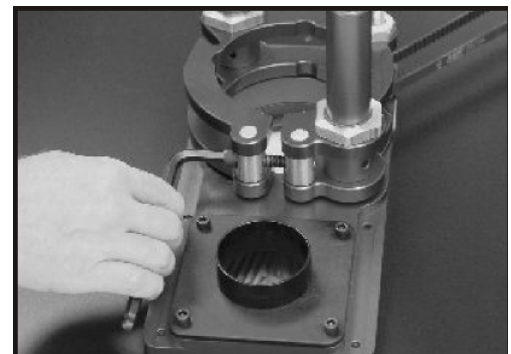

Figure 3
2. Loosen the cap screw on the carriage clamp to allow the motor to slide into the carriage assembly (Fig. 3).
5. Retighten the cap screw you loosened in step 3 to secure the motor housing (Fig. 3).